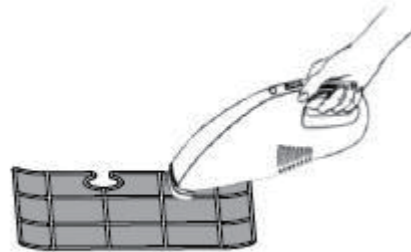

Figure 11
2. Clean the filter screen with a vacuum or in warm water (Fig 11,12)